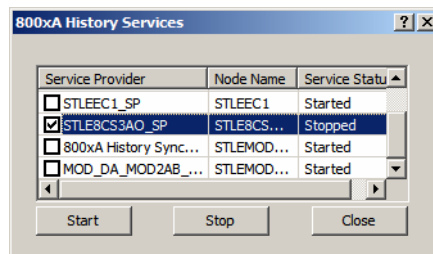

Figure 39. 800xA History Services Window
7. Check the appropriate Service Provider as shown in Figure 39 in the 800xA History Services window and click **Start**.